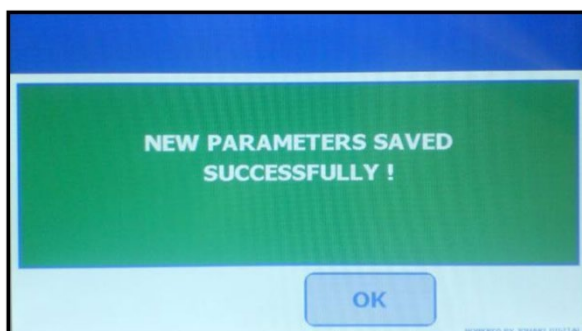

Figure V-25: New Parameters Saved Successfully Screen
4. The FP-24 5G will prompt “NEW PARAMETERS SAVED SUCCESSFULLY” (Figure V-25). Press [OK] to return to ‘Admin Tools’ menu.